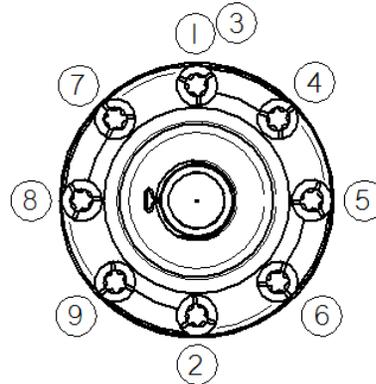

Figure 2
- 4) On the transfer case CVJ, use the new supplied hardware kit. Note: *It will look like your original hardware.* Torque all eight bolts to 37 Nm (27 ft-lbs) using the torque sequence shown in figure 2. The first bolt you torque will be torqued a second time after bolt number two is torqued.